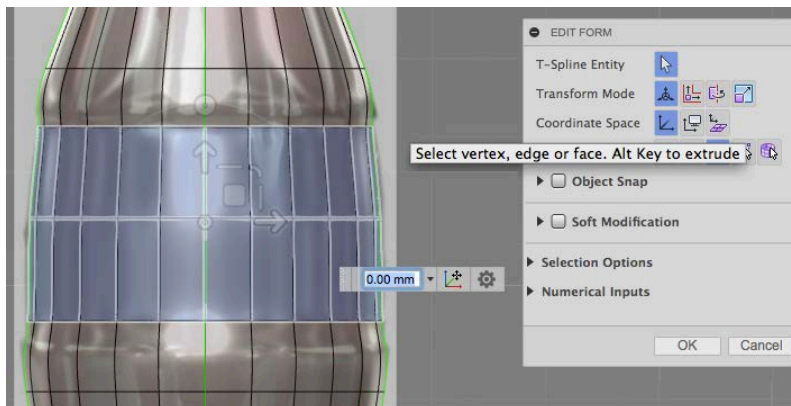

Fig. B05
- b. Select the faces in the ribbon area, HOLD ALT key and use the scaling tab in the center of the slide tool (it looks like a doughnut) to scale down that portion while adding additional edges (Fig. B05).